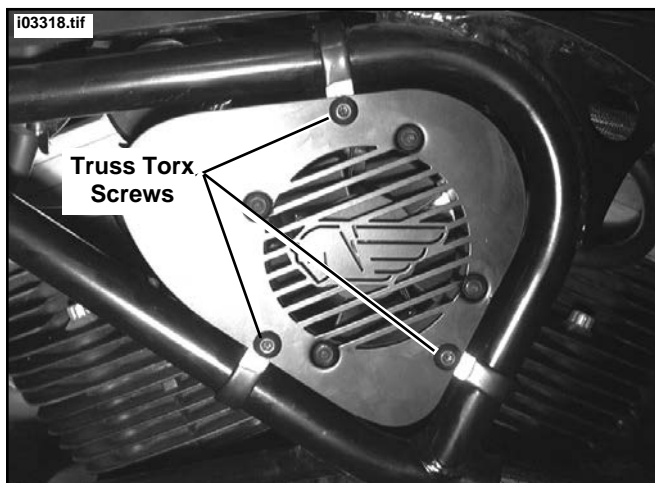

Figure 3. Install Fan Assembly to Frame Brackets
8. See Figure 3. Install assembled fan bracket to frame using clamps installed in prior step and truss Torx screws (part number AA0406.11CBL). Tighten screws to 5.0-8.0 ft-lbs (6.8-10.8 Nm).